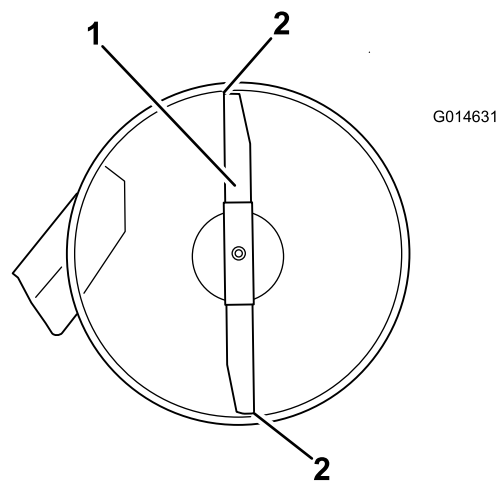
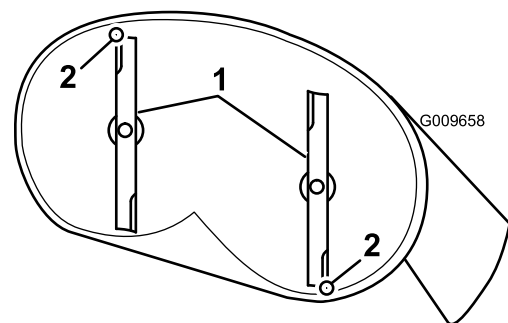

Figure 67
Figure 68
4. Carefully rotate the blade(s) so they are facing front to rear (Figure 67 and Figure 68).
5. Measure from the tip of the front blade to the flat surface, and the tip of the rear blade to the flat surface (Figure 67 and Figure 68).